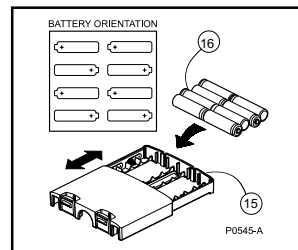

Figure 10 - Replacing the battery lid
- c) Place 8 “AA” alkaline batteries (16) into the base of the alkaline pack (15). Ensure they are aligned as shown in figure 10 and as indicated inside the compartment.